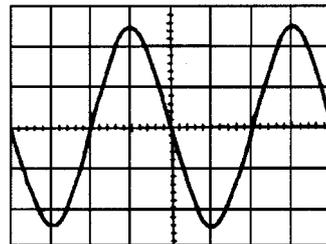

Figure A3.1
- 1 A conductor, 25 cm long is situated at right angles to a magnetic field. Determine the strength of the magnetic field if a current of 12 A in the conductor produces a force on it of 4.5 N. (3)
- 2 An electron in a television tube has a charge of $1.5 \times 10^{-19} \text{C}$ and travels at $3 \times 10^7 \text{m/s}$ perpendicular to a field of flux density $20 \mu\text{T}$. Calculate the force exerted on the electron in the field. (3)
- 3 A lorry is travelling at 100 km/h. Assuming the vertical component of the earth's magnetic field is $40 \mu\text{T}$ and the back axle of the lorry is 1.98 m, find the e.m.f. generated in the axle due to motion. (5)
- 4 An e.m.f. of 2.5 kV is induced in a coil when a current of 2 A collapses to zero in 5 ms. Calculate the inductance of the coil. (4)
- 5 Two coils, P and Q , have a mutual inductance of 100 mH. If a current of 3 A in coil P is reversed in 20 ms, determine (a) the average e.m.f. induced in coil Q , and (b) the flux change linked with coil Q if it wound with 200 turns. (5)
- 6 A moving coil instrument gives a f.s.d. when the current is 50 mA and has a resistance of 40Ω . Determine the value of resistance required to enable the instrument to be used (a) as a 0–5 A ammeter, and (b) as a 0–200 V voltmeter. State the mode of connection in each case. (6)
- 7 An amplifier has a gain of 20 dB. Its input power is 5 mW. Calculate its output power. (3)
- 8 A sinusoidal voltage trace displayed on a c.r.o. is shown in Figure A3.1; the 'time/cm' switch is
- on 50 ms and the 'volts/cm' switch is on 2 V/cm. Determine for the waveform (a) the frequency (b) the peak-to-peak voltage (c) the amplitude (d) the r.m.s. value. (7)